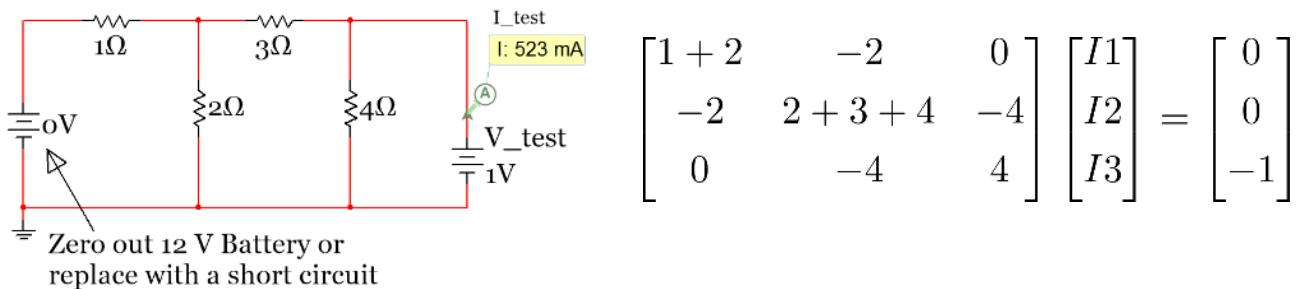

Figure 2.63: Sub-Problem 2 - I_{test} Calculation – Used in Method 3 to determine $R_{th} = V_{test}/I_{test}$)
- Using the Mesh Matrix in Figure 2.63 I_{test} is calculated to be 523 mA. $R_{th} = 1V/.523A = 1.913 \Omega$